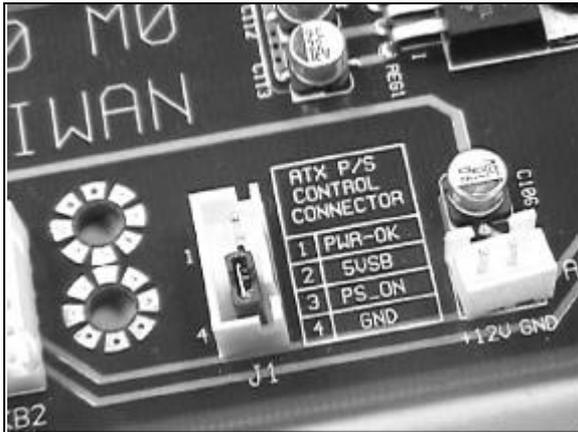

Fig. 5
3. If you use ATX power supply, you may also apply a jumper over pin-3 and pin-4 of J1. In this application, the 4-pin ATX power control cable is not required, and your ATX power supply will then act as a AT power supply (**Fig. 5**).